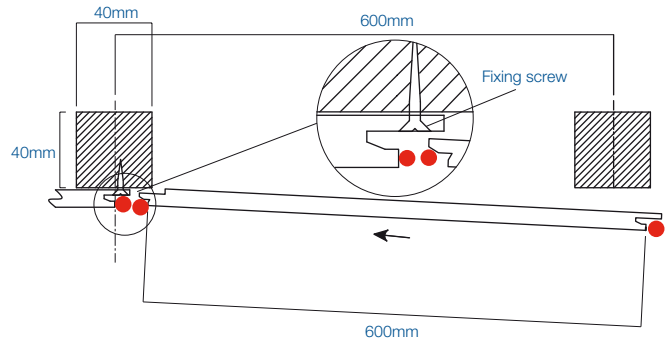

Fig A2 Tongue and groove assembly
- 4 Refer to *fig A2*, drill 5 no Ø4.5mm holes along the female grooved edge of the panel, 60mm in from ends and spaced at approx. 450mm apart, countersink to suit No.6 CSK screws.